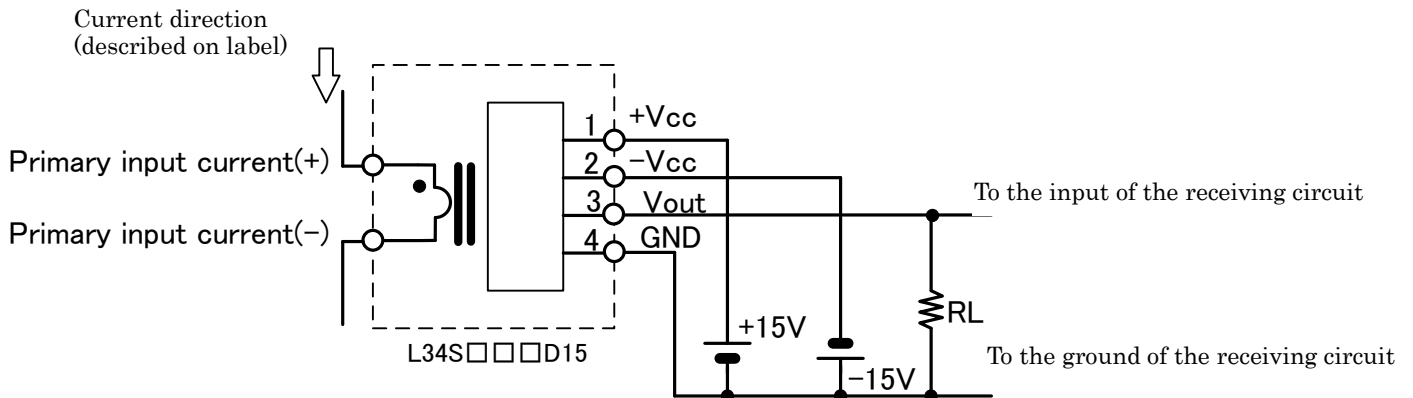

Fig. 2: L34S □□□ Standard circuit
### □ Description of Fig. 2
This current sensor converts a measured current into a voltage. The output voltage  $V_{out}$  (3) in Fig. 2 is output on the basis of the GND potential. When the current to be measured is 0,  $V_{out}$  (3) = 0Vtyp. When the current to be measured is in the plus direction (direction  $\Rightarrow$  of the label),  $V_{out}$  (3) becomes 0V + (voltage converted from the measured current). When the current to be measured is in the minus direction (direction opposite to  $\Rightarrow$  of the label),  $V_{out}$  (3) becomes 0V – (voltage converted from the measured current).
$R_L = 10 \text{ k}\Omega$  in Fig. 2 is the equivalent resistance of the receiving circuit of the current sensor output  $V_{out}$  (3). The load resistance between the  $V_{out}$  terminal (3) and the GND potential (4) is standard 10 k $\Omega$ .